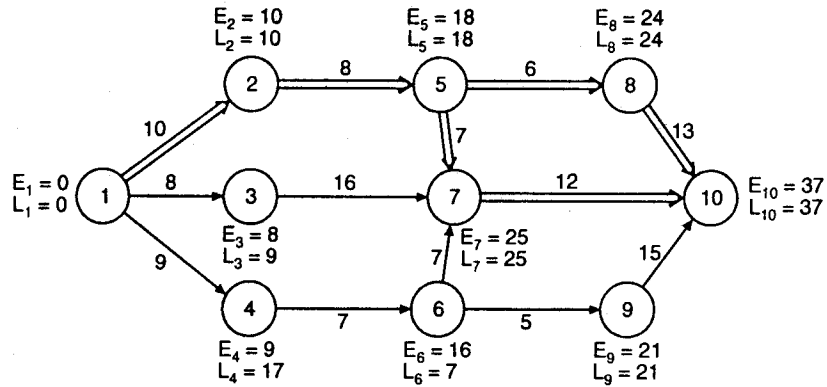

Fig. 25.24.
**Solution.** Proceeding as in above example calculate the  $E$  and  $L$  for each node as shown in the Figure 25.24.